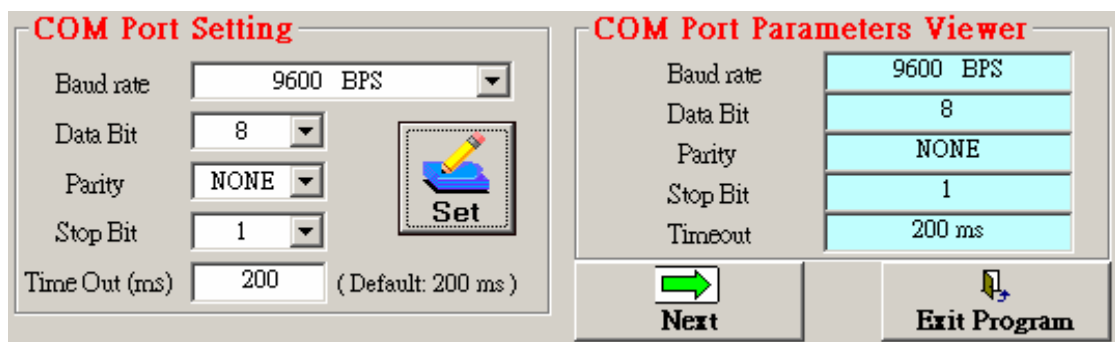

Figure 6-21. “Com Port Parameter Setting & Viewer”
**Step 7:** Press the “RS-485” button, , to display the Com2 configuration information on the I-7242D. Press the “Setting” button to set the needed RS-485 communication information in the dialog box as figure 6-21.